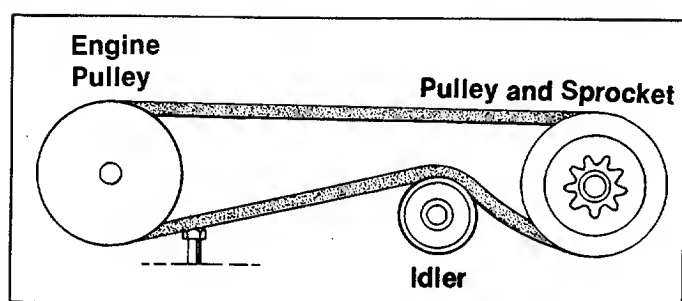

FIGURE 25
8. Install the new belt as shown in figure 25 with the idler under the belt.